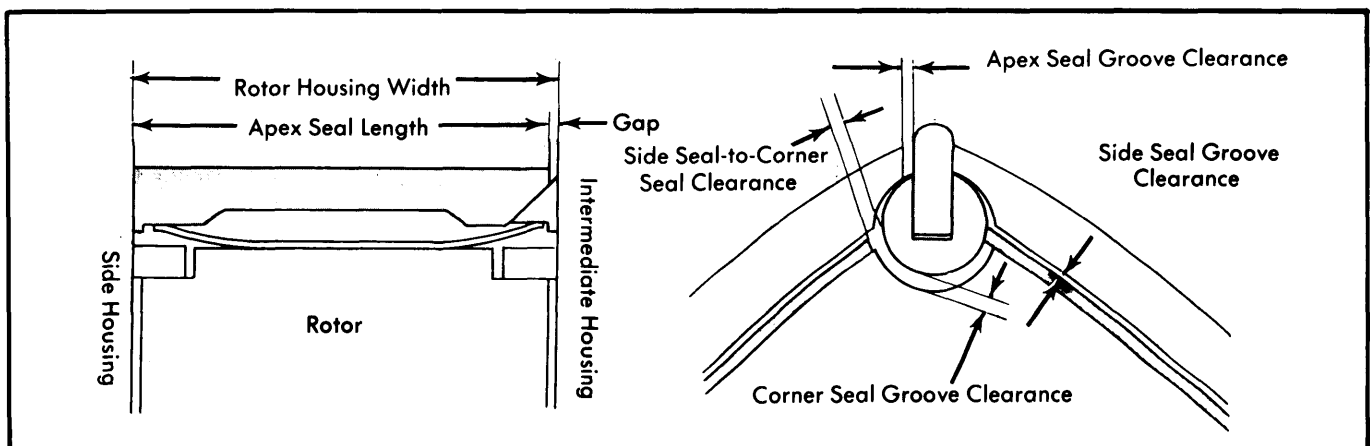
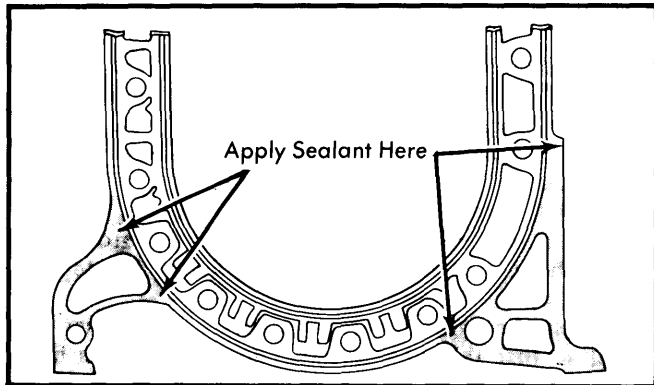
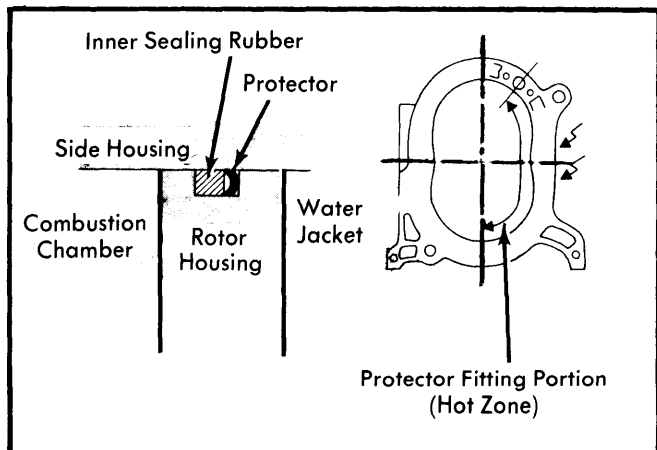

Fig. 15 Measuring Clearance of Apex, Side & Corner Seals
Fig. 20 Applying Sealing Agent to Rotor Assembly
Fig. 21 Installing Protectors for Inner Sealing Rubbers
1) Apply sealing agent to front side of rotor housing as shown in Fig. 20. To provide greater durability to sealing rubbers, install a protector behind each inner sealing rubber (Fig. 21). Install new "O" ring, sealing rubbers and protector in front side of engine housing. Apply light coat of petroleum jelly to hold seals in place.
3) Insert apex seal springs, confirming spring direction (Fig. 15). Install corner seal springs and corner seals in their respective grooves. Install side seal springs and side seals. Fit side pieces to original positions and lubricate with engine oil. Apply sealant to rear side of front rotor housing in areas shown in Fig. 20. Apply engine oil to sliding surfaces of front rotor housing.